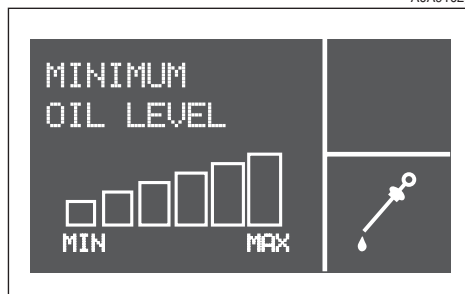

fig. 92
**Fig. 92** refers to the display with an oil level below the foreseen minimum. In this condition the bars are all empty.